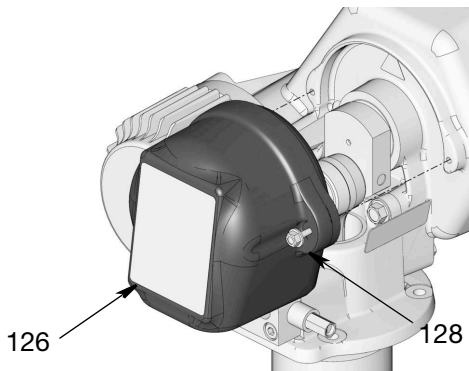

FIG. 52
27. Reinstall the cover (126) using the bolts (128). Use a wrench to tighten the bolts securely (FIG. 52).